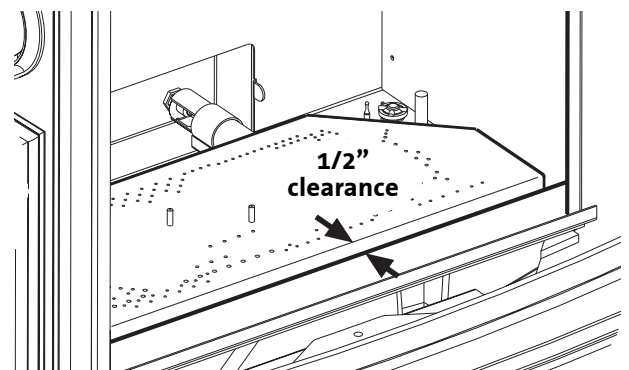

Figure 25. Correct Burner Position.
10. Replace the Burner Plate. Engage the burner tube with the Air Shutter assembly as in fig. 25. Be sure the burner is securely engaged with the two support brackets at the front of the firebox and push the plate back toward the rear of the firebox. When correctly positioned, there will be 1/2" (13 mm) clearance between the burner plate and the front of the firebox. See fig. 25.